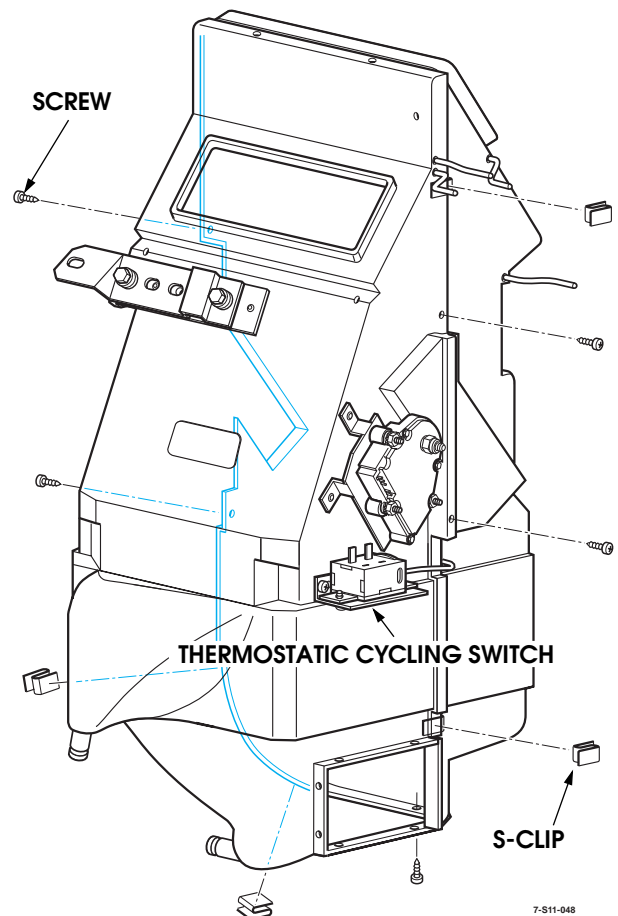

Figure 11-103: Case Half Hardware Removal
- Remove screws securing case halves together. Do not attempt to separate case at this time (Figure 11-103).
- Remove screws securing thermostatic cycling switch to HVAC unit case (Figure 11-103).